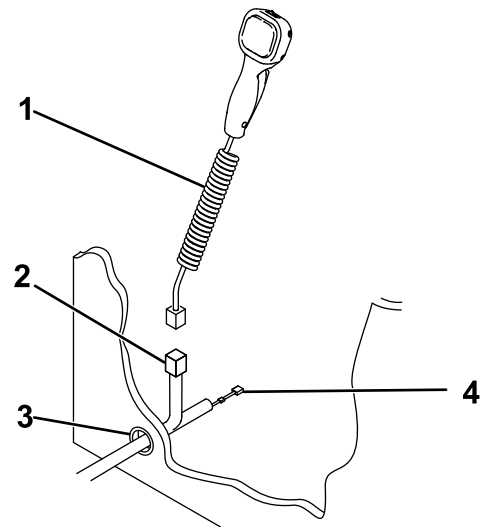

Figure 14
4. Pull the plow controller connector and black/red wire with an in-line fuse into the vehicle cab through the hole in the firewall (Figure 14).